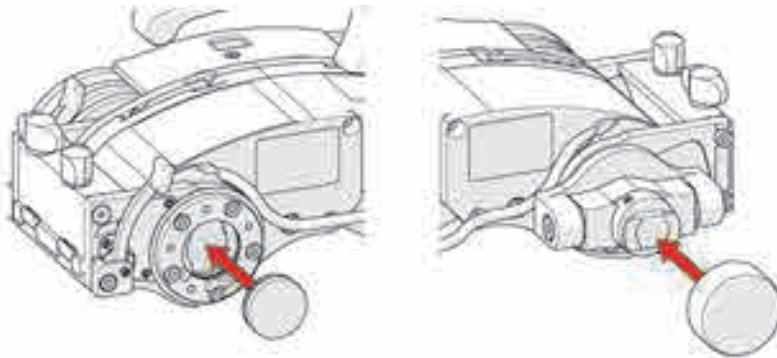

Figure 4-25 Use caps on the connection pivots
4. Use the provided caps to protect the connection pivots from dirt, dust, mud, etc. (see Figure 4-25 on page 109).